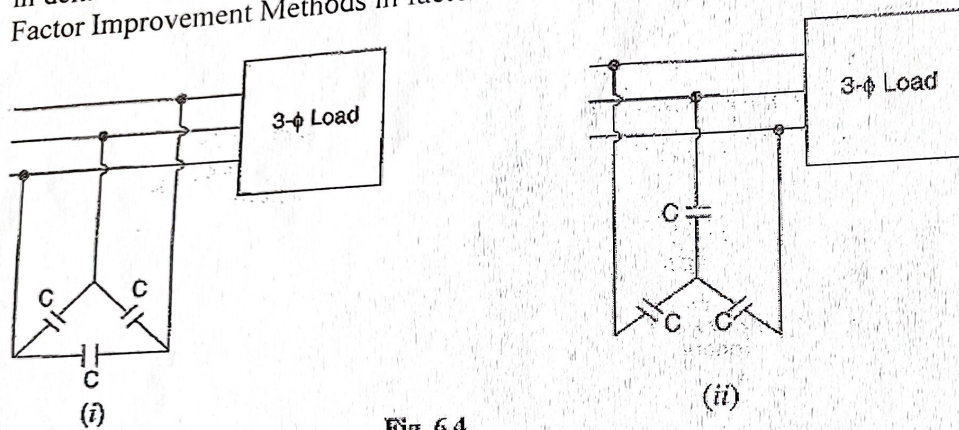

Fig. 6.4
**1. Static capacitor:** The power factor can be improved by connecting capacitors in parallel with the equipment operating at lagging power factor. The capacitor (generally known as static capacitor) draws a leading current and partly or completely neutralises the lagging reactive component of load current. This raises the power factor of the load. For three-phase loads, the capacitors can be connected in delta or star as shown in Fig. 6.4. Static capacitors are invariably used for Power Factor Improvement Methods in factories